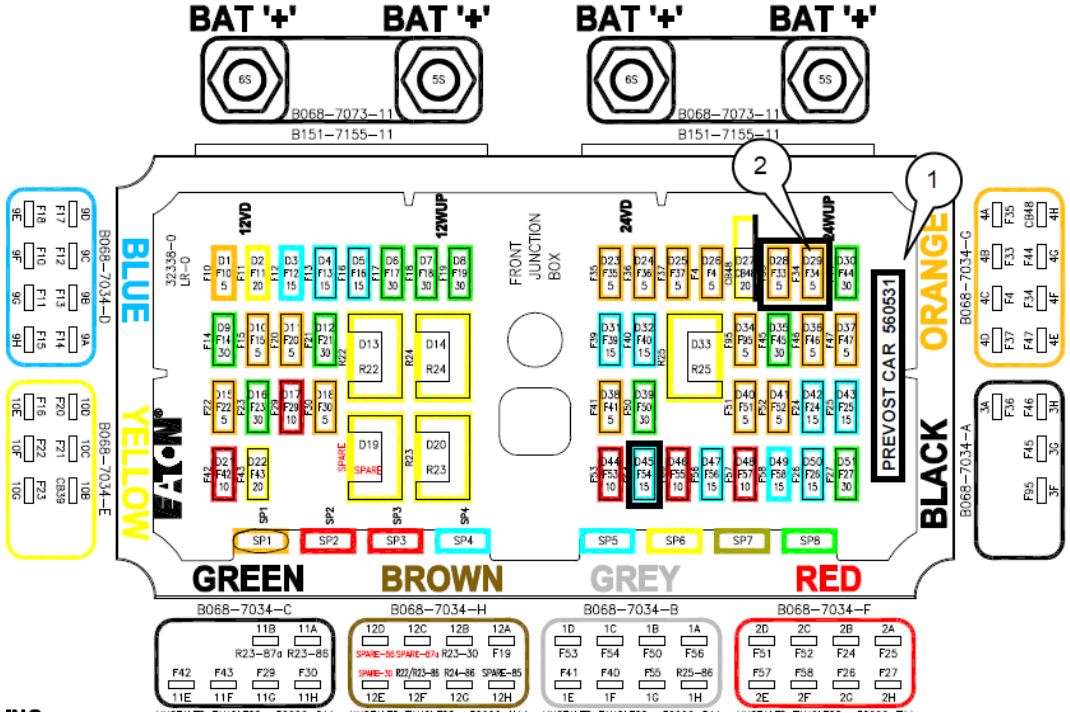

Figure 2: Prevost part number (1) and F34 fuse (2) position in VEC unit
2. Open the VEC cover and validate the **Prevost part number** located at the right of the unit (position 1 in figure 2) part number must be **560531**.
- F34 fuse is a 5A fuse (position 2 figure 2).